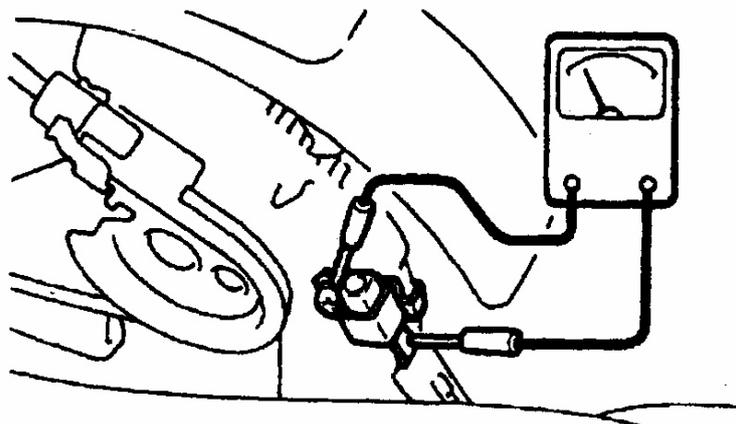

FIG.16-70
- (1) removal central control box.
- (2) check continuous between parking brake switch terminal and switch bolt.(FIG.16-70)